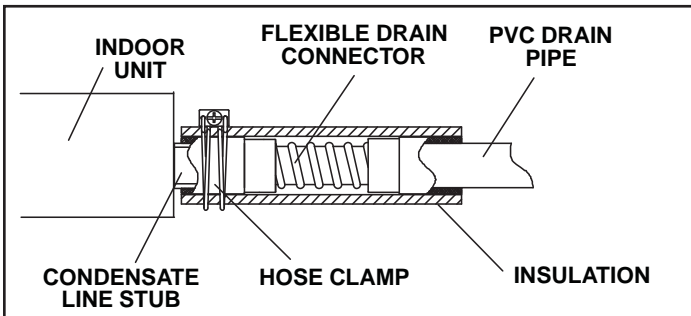

Figure 9. Condensate Drain Connection
1. Use the provided hose clamp to secure the provided flexible condensate drain connector and insulating sleeve to the drain line stub on the side of the indoor unit. See figure 9. **NOTE** - Take care not to over-tighten the hose clamps this may damage the drain line stub.